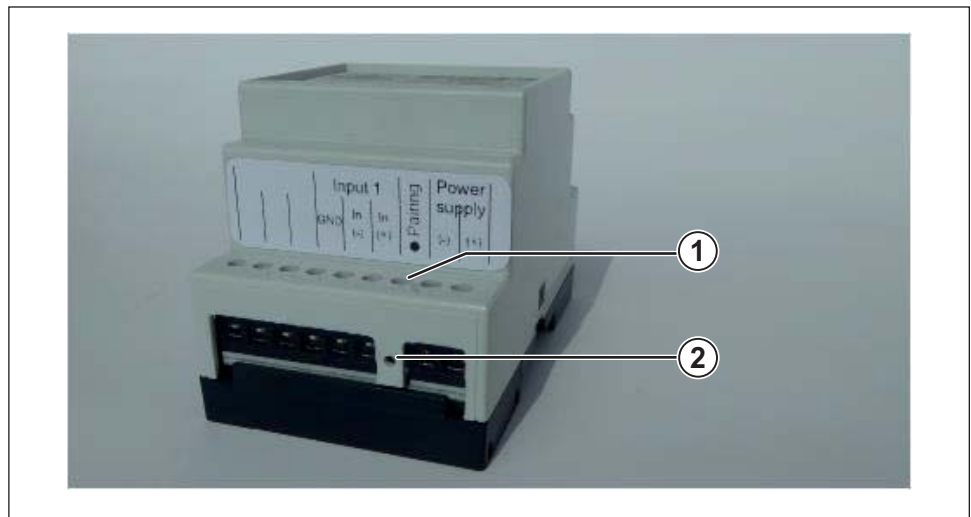

Fig. 3: WTX 202 - Pairing
The pairing button (2) is beneath the LED (1) at the terminal side (see fig. 3) and is operated using a thin pin through the small drill hole marked “Pairing” in the housing.